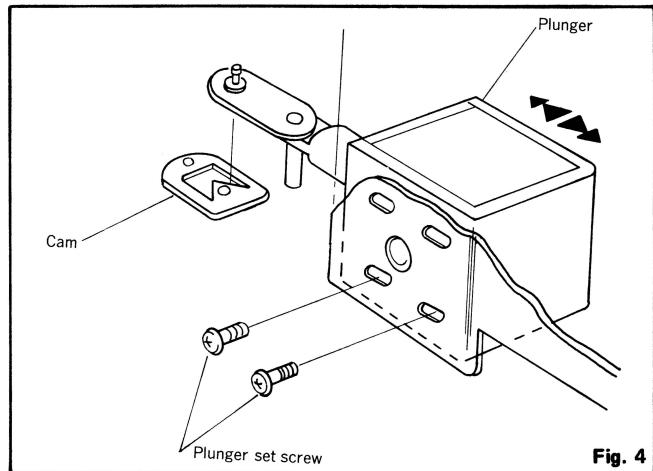

Fig. 4
4. Adjusting the plunger (See Fig.4)